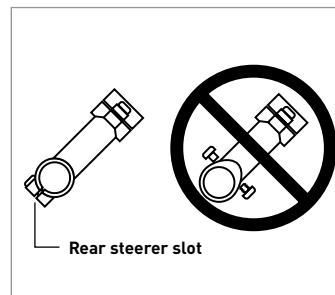

Figure 1
**⚠ WARNING:** Only use rear slot-style clamping stems on carbon steerers. Wedge-clamp stems must not be used and could result in failure (Fig. 1).